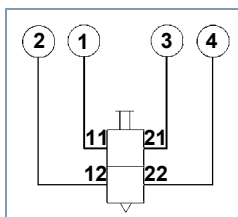

Fig. 3 Test Bench Ports
- Connect device to test bench ports (see fig. 3).